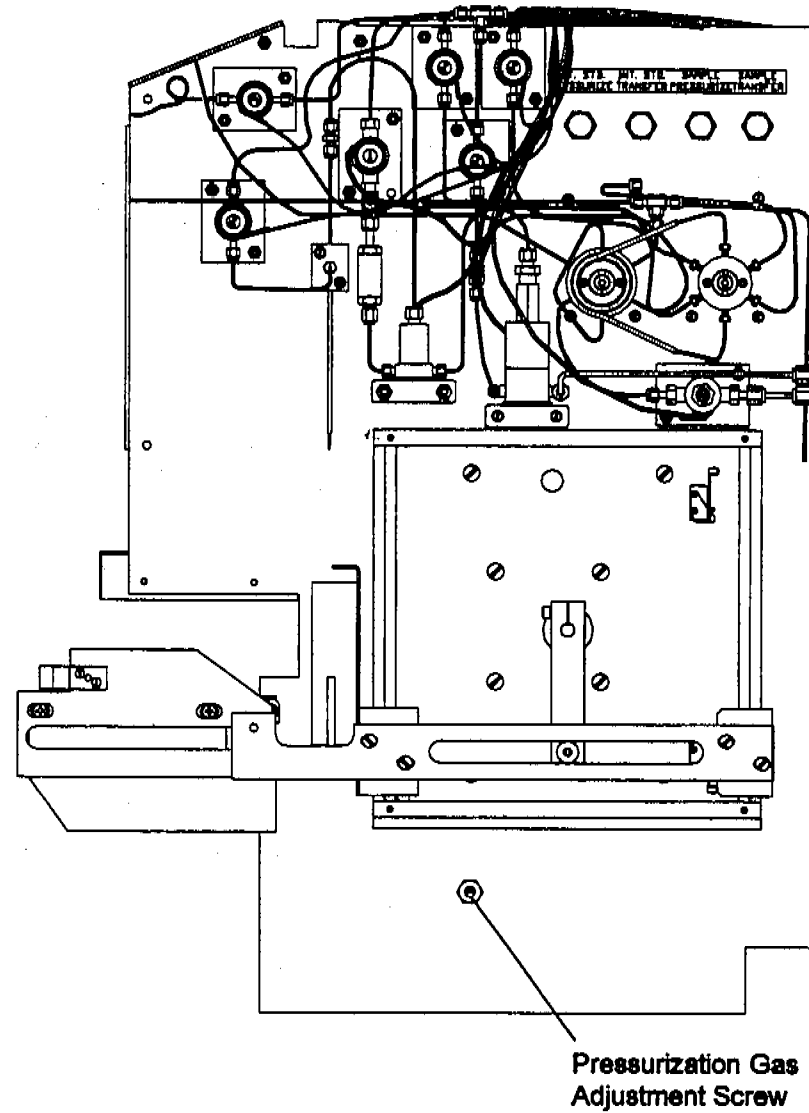

Figure 3-8 Pressurization Gas Adjustment Screw Location
1. Locate the Pressurization Gas Adjustment Screw (refer to Figure 3-8 in this manual).